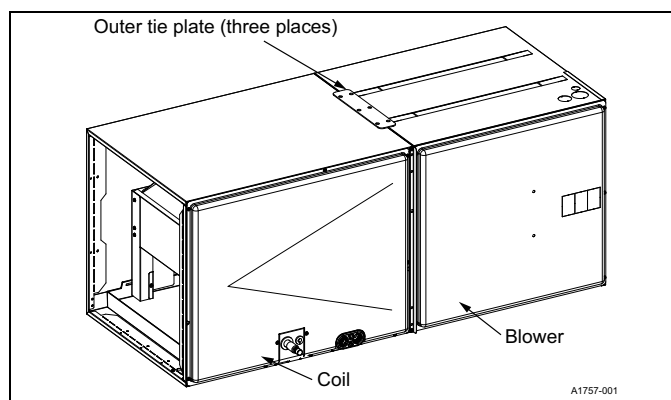

Figure 4: Coil and air handler attachment details
2. Attach three tie plates to the external sides and back of the air handler casing using screws. See **Figure 4**.
4. Attach the three tie plates to the coil casing using screws. See **Figure 4**.